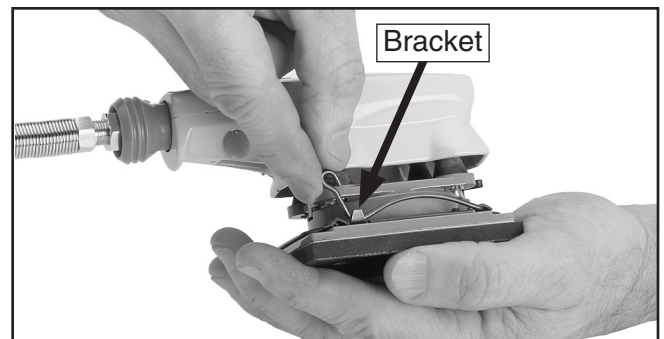

Figure 2. Opening clamp.
3. Lift one clamp up over the bracket (Figure 2), then pull the clamp down to open it.